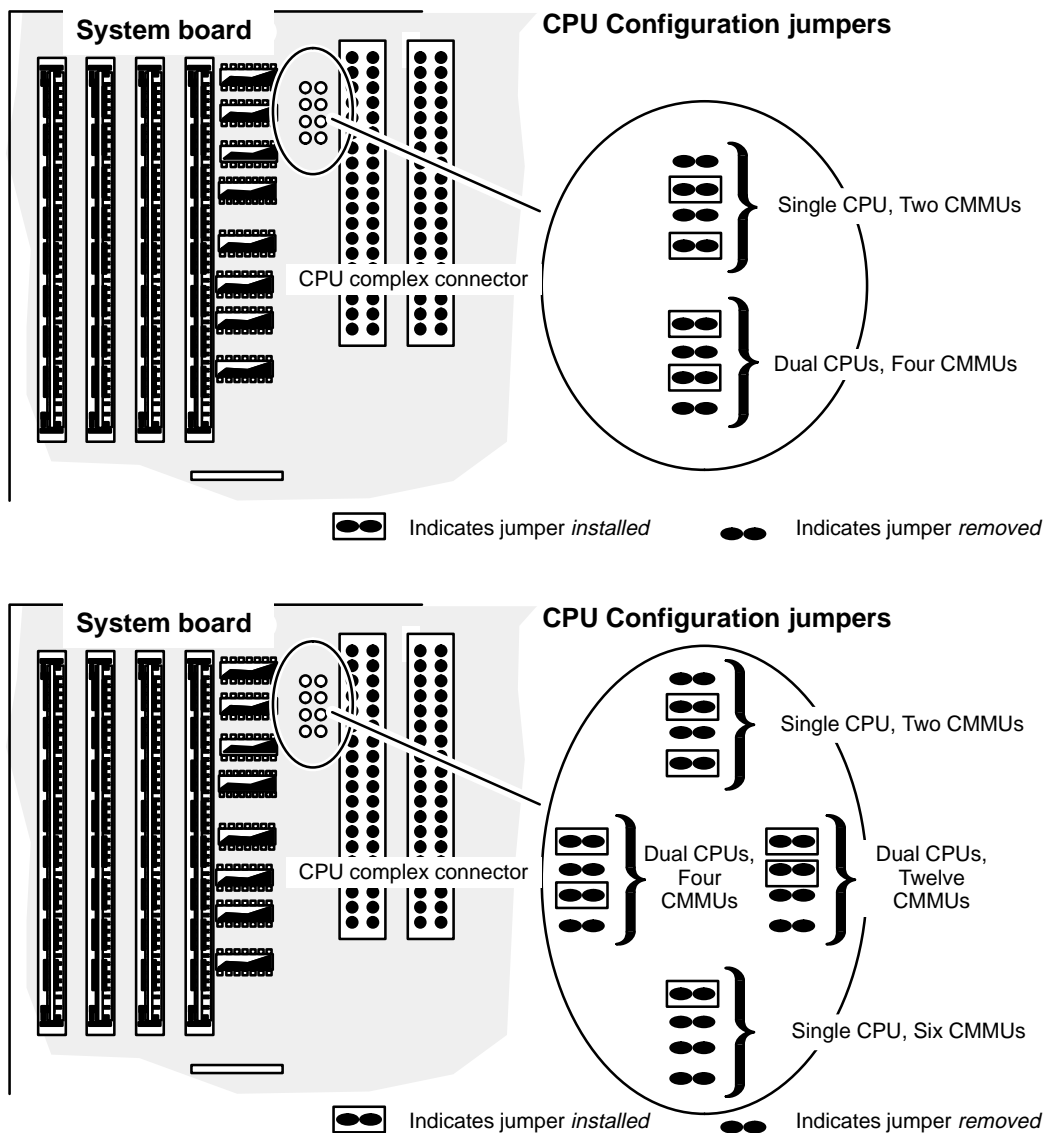

Figure 9-6 CPU Configuration Jumpers on the System Board
1. Verify, and if necessary reset, the CPU configuration jumpers on your system board as indicated in Figure 9-6.